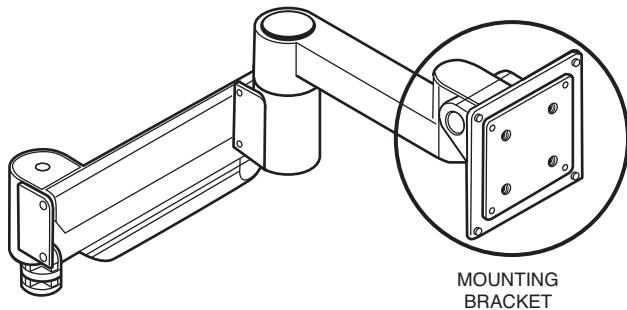

Fig. 3 — Display Screen Mounting Location
1. Slide the screen display onto the mounting bracket. (location shown in Fig. 3).